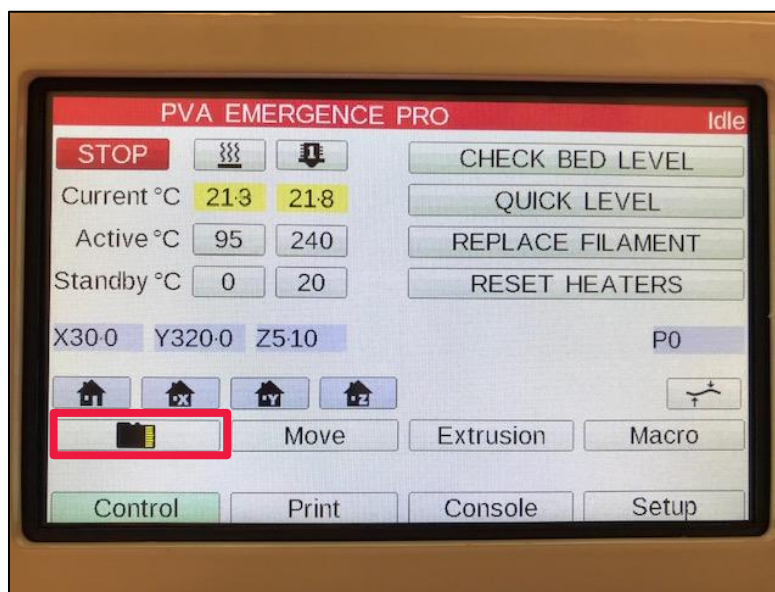

Figure 59: File Selection
1. On Printer Control Screen, press **File Selection** button (Figure 59).